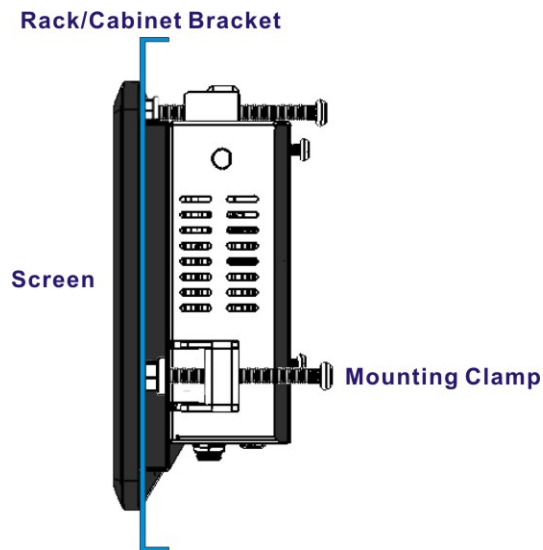

Figure 3-23: Secure the Rack/Cabinet Bracket
- Step 2:** Insert the mounting clamps into the mounting brackets and pre-formed holes along the edges of the PPC-F06B-BT, behind the aluminum frame (Figure 3-23). There are a total of four mounting clamps required.
- Step 3:** Tighten the screws that pass through the mounting clamps until the plastic caps at the front of all the screws are firmly secured to the bracket (Figure 3-23).